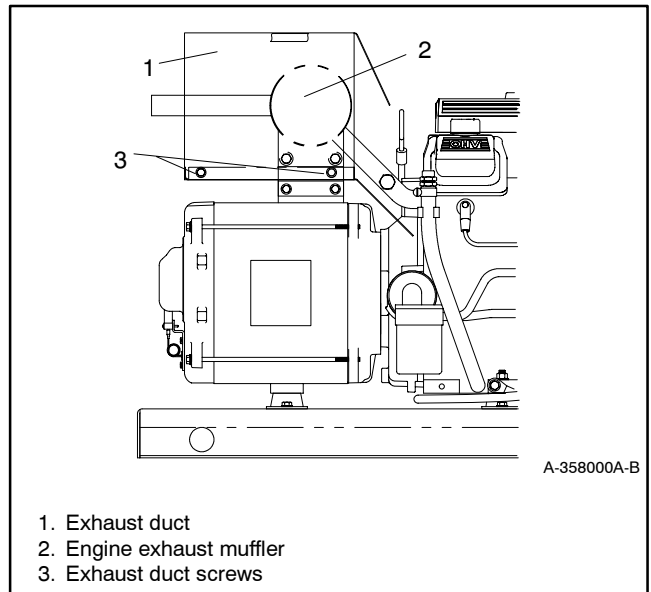

Figure 8-4 Exhaust Muffler Duct
4. Disconnect the exhaust system. See Figure 8-4.